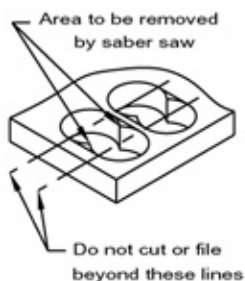

Figure 3
- With the template as a guide draw tangent lines between the four holes to show the area to be removed. Use a rasp or a saber saw to remove points of material left from drilling (Figure 3).